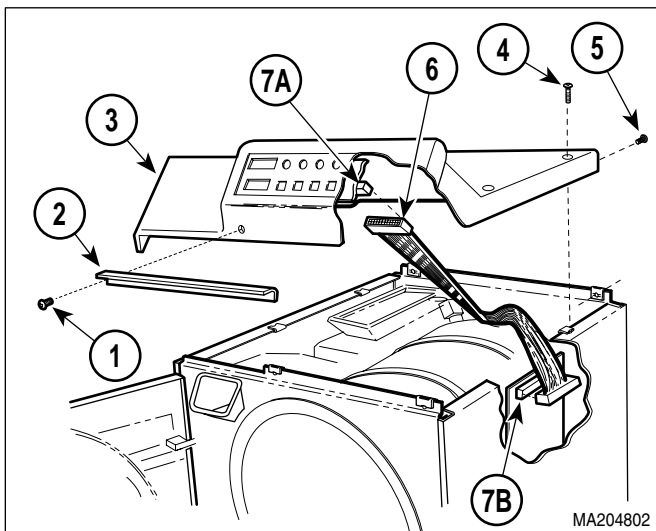

Figure 4-1. Top Cover Removal / Installation
- (1) Disconnect power cord from the outlet.
- (2) If the sterilizer contains a printer, remove printer (Refer to Operation Manual).
- (3) Open sterilizer door.
- (4) Remove two screws (1, Figure 4-1) and steam block (2) from top cover (3).
- (5) Remove four screws (4) and two screws (5) from top cover (3).
- (6) On units which apply, carefully break front of top cover (3) loose from silicone sealant.